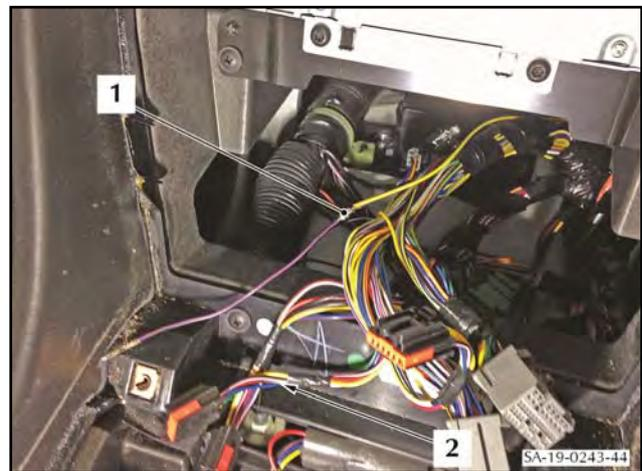

Figure 82
113. Remove a 10 mm section of insulation from the black/purple wire at the position shown (1) in Figure 82.